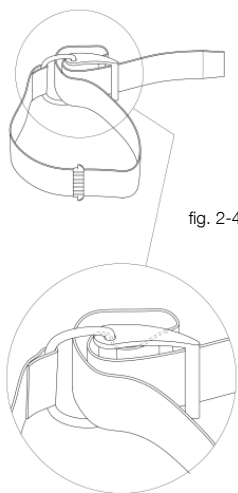
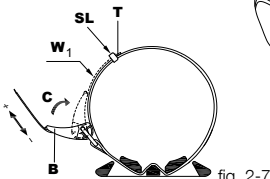

fig. 2-4
fig. 2-7
1. Rotate the buckle until it snaps into the open position. Slide the strap around the plastic buckle as shown in the figure (Fig. 2-4), wet the strap before clamping it in place on the tank, and adjust the length (Fig. 2-7).